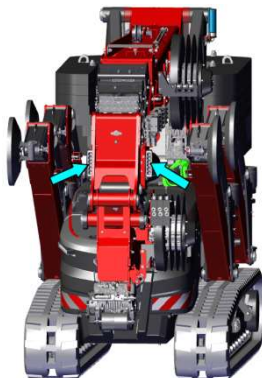

Figure: 27
- Pressing the work lights button on the remote control one time switches on the two work lights on the main boom (see figure 27).
- Pressing the work lights button on the remote control one more time switches on the two work lights on the main boom and leaves the two work lights on the jib switched on (see figures 27 and 28).